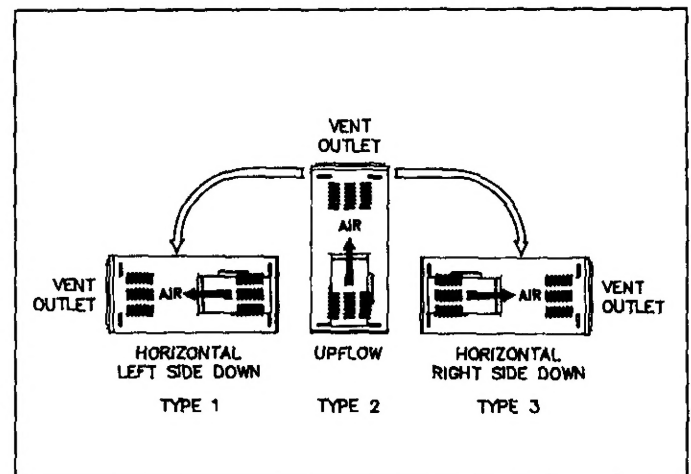

FIGURE 1
1. You may install furnace as-shipped in an upflow or horizontal configuration in one of three positions shown in Figure 1.
1. Furnace as-shipped is an upflow furnace. Furnace may be installed in this position or may be installed as a horizontal on its right or left side without any conversion. See Figure 1.